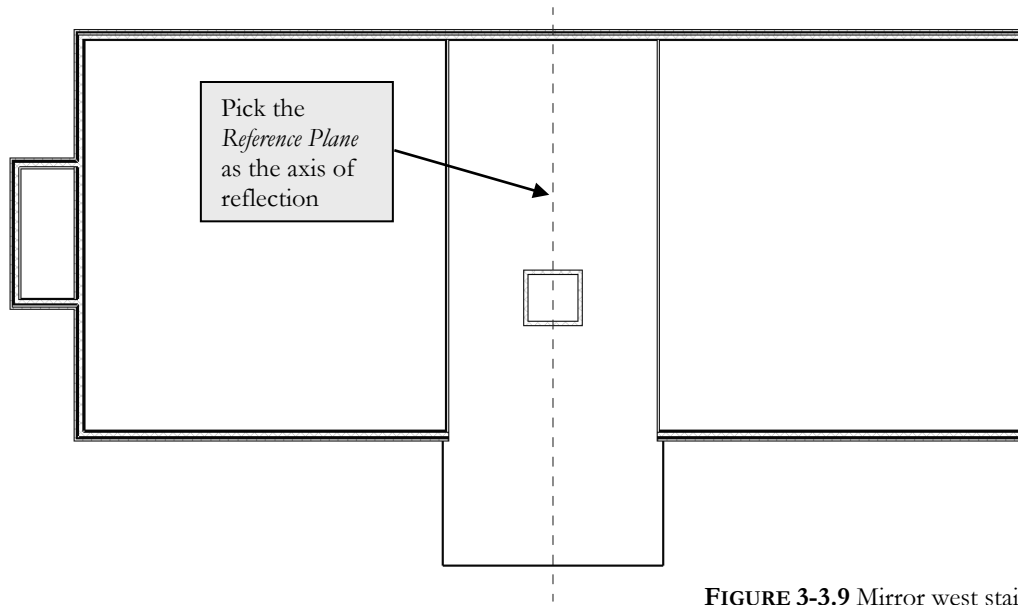

FIGURE 3-3.9 Mirror west stair
25. Draw a Reference Plane snapped to the vertical, centered on the South atrium wall (See Figure 3-3.9).
26. Erase the four walls of the East stair shaft; this will include the main east wall of the office building (Figure 3-3.9).
27. Select the six walls at the West stair (Figure 3-3.9).
28. Select the **Mirror - Pick Axis** tool (on the *Ribbon*) and then select the *Reference Plane* (Figure 3-3.9).